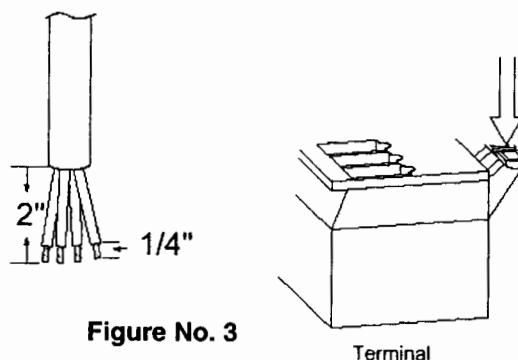
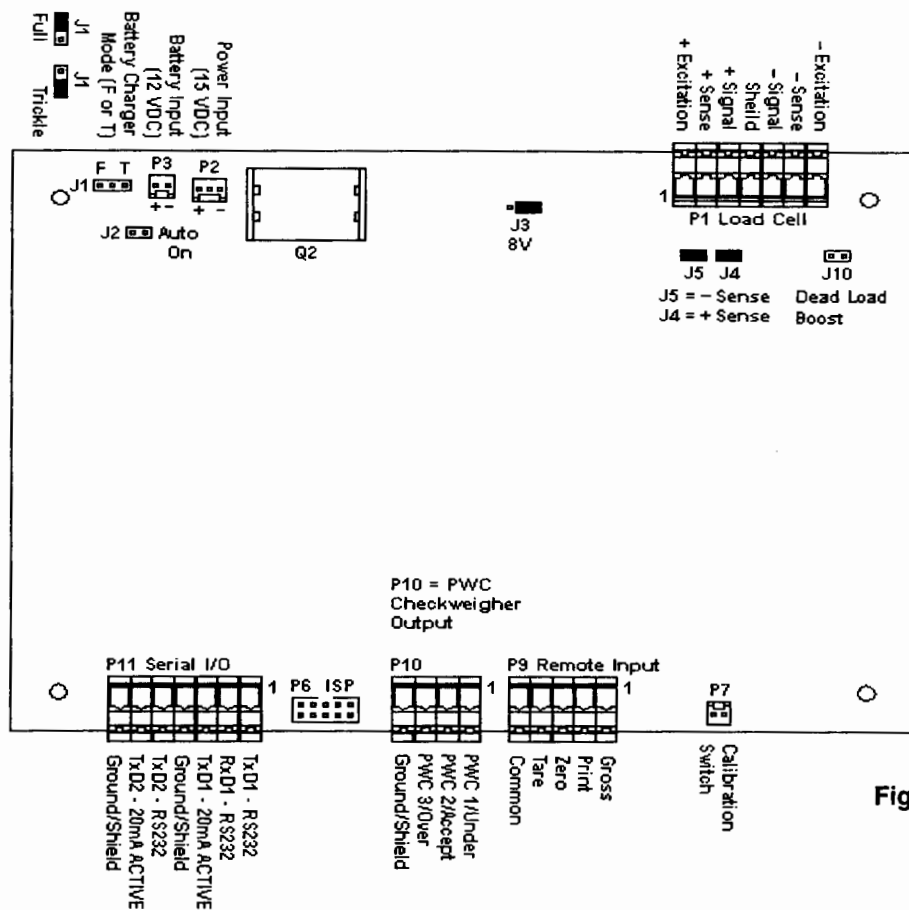

Figure No. 3
Figure No. 6
3. Remove 2" of the outer insulation jacket then remove 1/4" of insulation from each of the 4 wires and shield without sense leads or 6 wires and shield with sense leads (refer to figure No. 3).
3. Connect each of the wires to terminal block P1 referring to the labels on the circuit board for terminal connections. Refer to Figure No. 6 for terminal block location.
NOTE! If the sense leads are NOT used, you must install plug-in jumpers at J4 and J5 adjacent to the terminal block. These jumpers attach the sense leads to the excitation leads. If sense leads ARE used (as in motor truck scales), these plug-in jumpers should be positioned on one plug-in pin only or removed and stored for later use (see Figure No. 6).
3. Remove 2" of the outer insulation jacket then remove 1/4" of insulation from each of the wires (refer to Figure No. 3).
4. Connect each of the wires to the Serial Data terminal block (P11) referring to Figure No. 6 for terminal block locations.
Included with the I/O are 4 programmable inputs that may be used to remotely (up to 100 feet) initiate various functions within the indicator. These inputs are accessed via a terminal block (P9) on the back of the PC board (see Figure No. 6). The 4 inputs are defined as follows:
To connect the control cable to the preset weight comparator/checkweigher logic level output connector P10, first loosen the gland connector located on the back of the 210 on the right side. Refer to Figure No. 6 for the exact location of this connector. Slip the cable through this connector and into the enclosure. Remove 2 inches of the cable insulating jacket then 1/4 inch of insulation from each of the internal wires (refer to Figure No. 3). Make the proper terminations on terminal block P10. To terminate a wire, first press down on the terminal block release bar, insert the wire into the terminal and remove pressure from the release bar locking the wire in place.